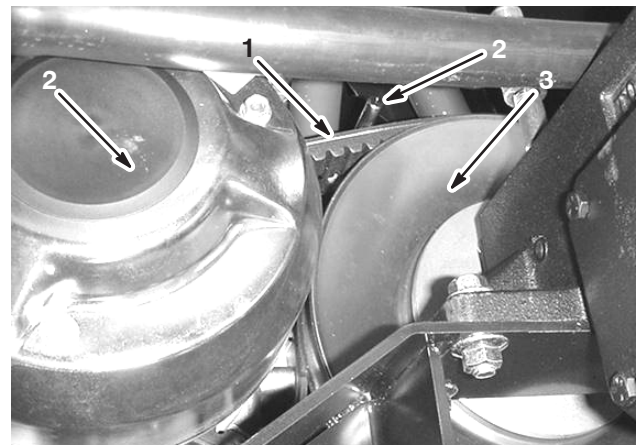

Figure 50
1. Loosen the 2 belt guides near the secondary clutch (Fig. 50).
2. Rotate and route the belt over the secondary clutch (Fig. 50).
3. Remove the belt from the primary clutch (Fig. 50).
4. Place the new belt over the primary clutch (Fig. 50).
5. Rotate and install it over the secondary clutch (Fig. 50).